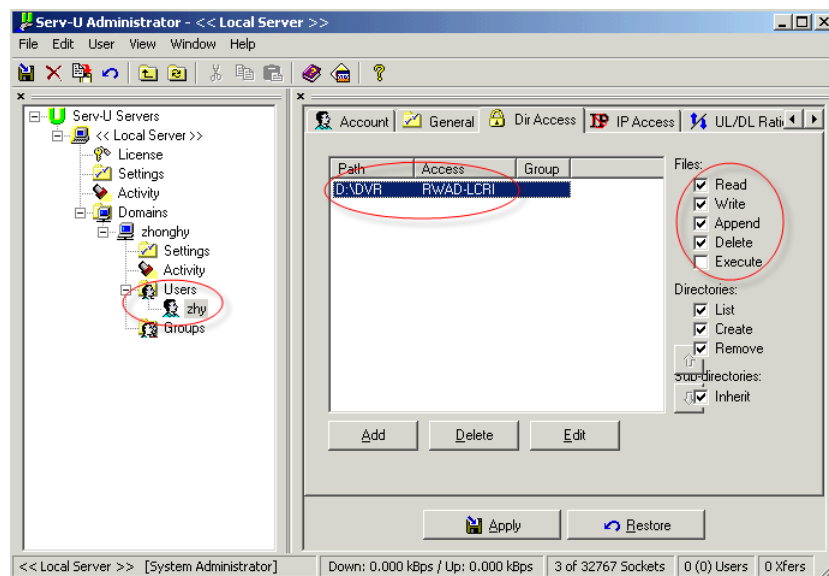

Figure 4-79
-> Serv-U Administrator. Now you can set user password and FTP folder. Please note you need to grant write right to FTP upload user. See Figure 4-79.